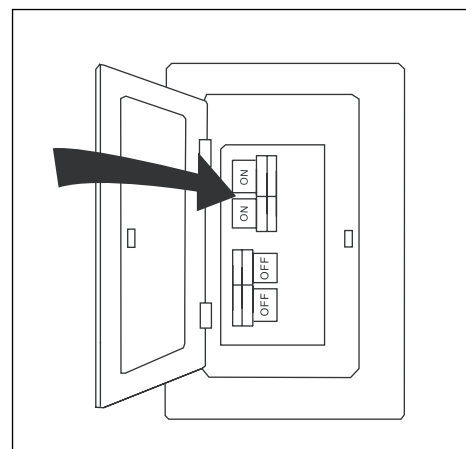

Figure 4.9
9. Turn ON the electrical power at the main fuse or circuit breaker and the wall switch (Figure 4.9). **Assembly is complete.**